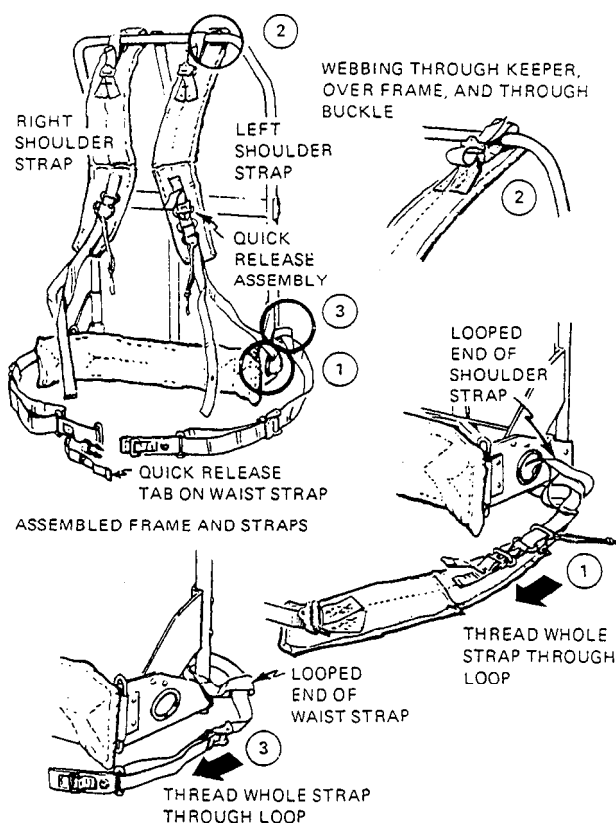

Figure 2-10.—Attaching shoulder and waist straps to pack frame.
- Frame with the medium pack attached to it (fig. 2-10)
The following three steps for attaching the existence load shoulder and waist straps correspond to the three actions shown in figure 2-10: